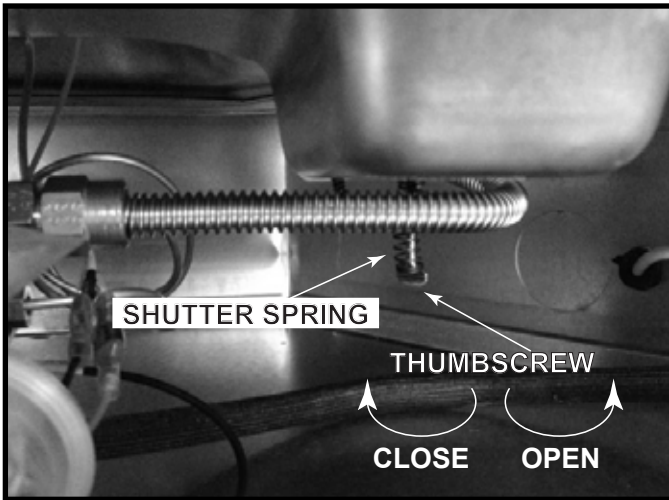

Figure 9.1 Adjusting Air Shutter
- Adjust air shutter for longer vertical runs. See Figure 9.1. Turn the thumbscrew to open or close the air shutter. It may be necessary to use a pliers or crescent wrench to adjust the shutter.